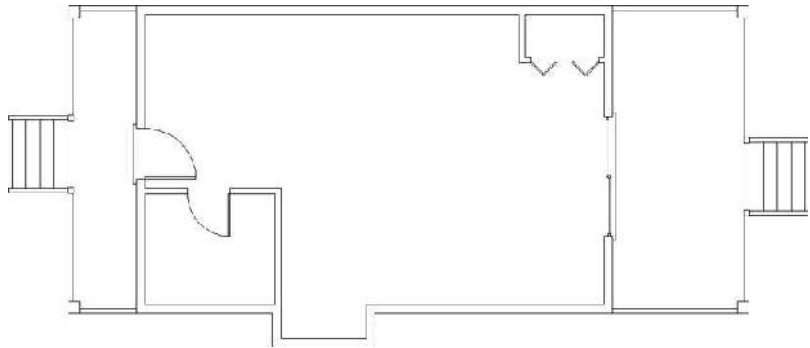

FIGURE 5.36: The cabin after completing the back deck
8. The stairs are moved vertically and centered on the back door. Zoom to the drawing's extents. Your drawing should look like Figure 5.36.